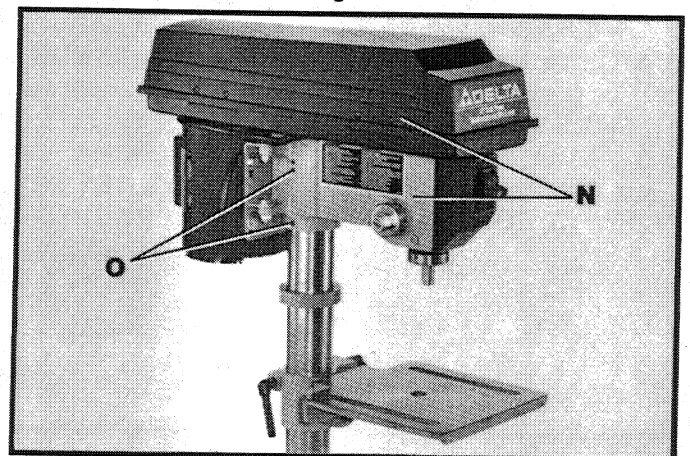

Fig. 13
9. Place the drill press head (N) Fig. 13, onto the column as far as it will go. Line up drill press head with base and tighten two screws (O) with wrench provided.